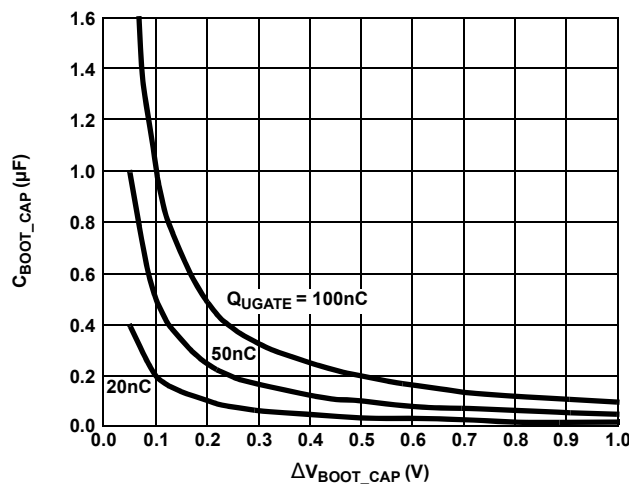

Figure 5. Bootstrap Capacitance vs Boot Ripple Voltage
- ΔV_{BOOT_CAP} is defined as the allowable droop in the rail of the upper gate drive. Select results are exemplified in Figure 5 on page 9.